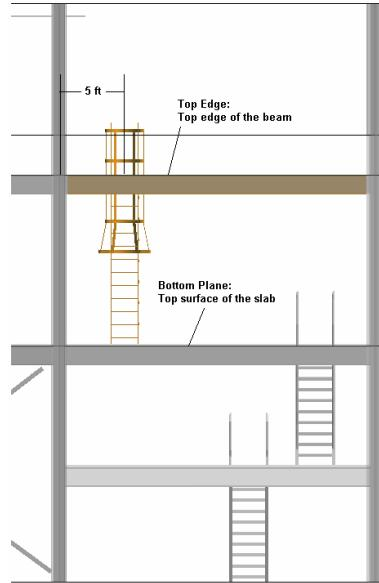

Figure 20 – North View of the two-story building.
- 5 Select the reference edge for the ladder. See Figures 20 and 21.